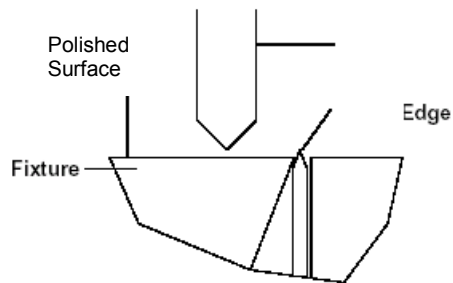

Figure 12.9 Positioning to Start Scan
2. Move the stage using the X-knob to position the stylus about 50-60 μ m from the edge of the blade, as shown in Figure 12.9. Note: it might be difficult to accurately determine the position of the edge by sight. If you have difficulty, try taking a longer scan to locate the edge, then adjust the start position accordingly and return to the shorter scan length.